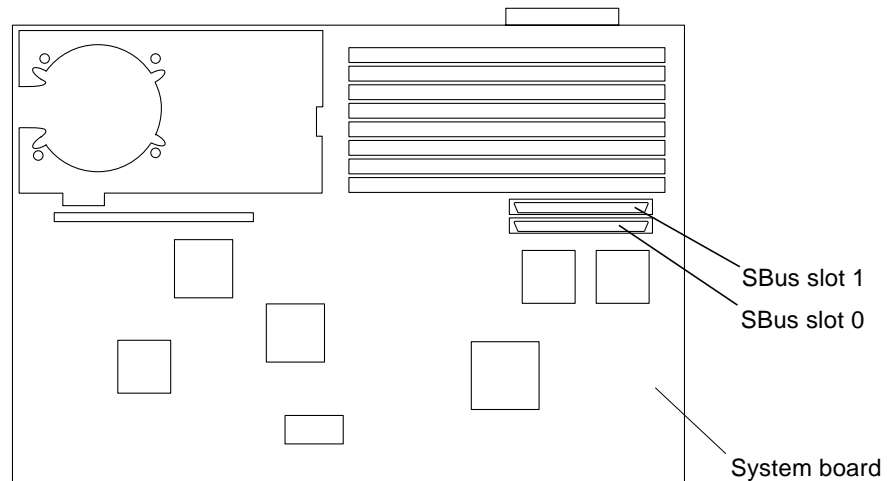

Figure 3-10 SBus Slot Positions
3. Locate the slot for the replacement SBus card (Figure 3-10).